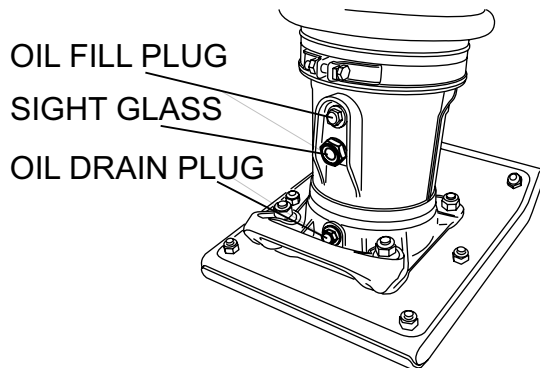

Figure 3. Foot Housing Sight Glass
1. Check the oil level through the oil level sight glass (Figure 3) at the rear of the tamper foot.
2. If oil is not visible, add 10W-30 SE, SF or higher grade motor oil into the oil fill plug opening (Figure 3). The bath contains approximately 1.3 pints (650 cc.).